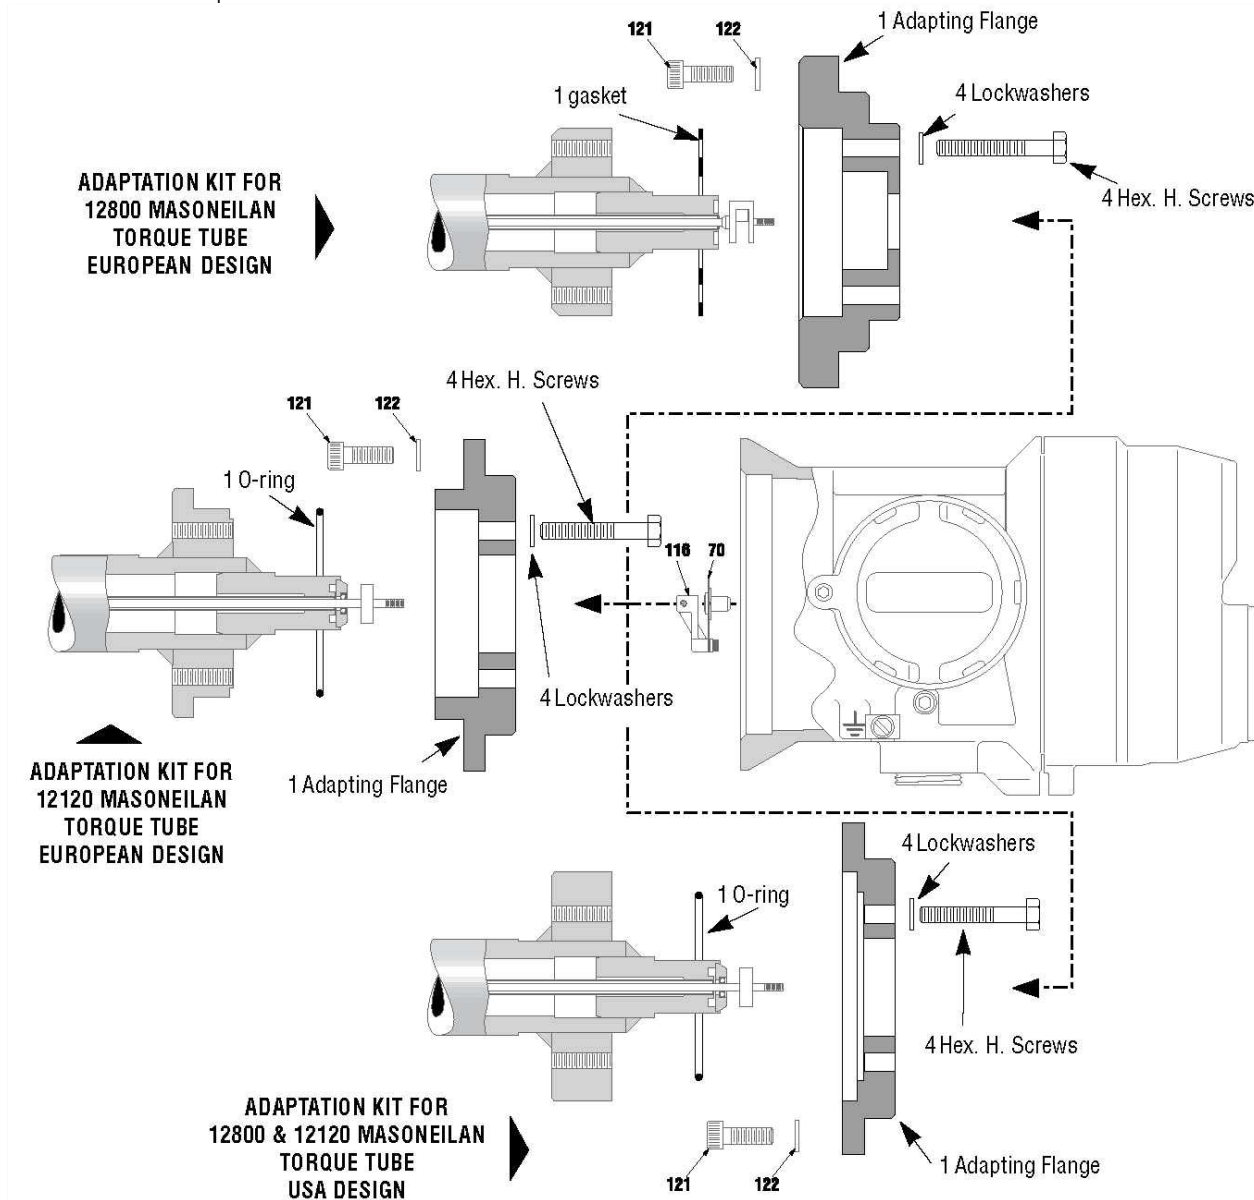

Figure 21 - Adaptation on 12800/12120 torque tube
- a. Switch off power supply. Unscrew safety screw (106) until it disengages from the case and remove the cover (104) of the connection compartment. Disconnect supply wires from terminals (90).
- b. Remove cover (107) of the mechanism compartment. Remove the spring arm (242) from the pin (243) on the beam to disengage and relax it.
- c. Using a 2.5 mm hex wrench, loosen screw (62) to uncouple the beam (54) from the torque rod.
- d. While holding the case to prevent it from falling, loosen the four screws (121), using a 5 mm hex wrench, and remove them along with the washers (122). Remove the case by pulling it along the axis of the torque tube while being careful to prevent from any deformation of the coupling flexure (70).
- e. If the original case or an identical one is reinstalled on the same torque tube, do not remove the coupling flange (116) from the torque rod. Also, do not disconnect the coupling flexure subassembly (70). As an alternative, loosen screws (119) using a 1.5 mm hex wrench and remove the coupling flange-flexure sub-assembly (116-70).
- f. If the torque tube is not dedicated to 12400 instrument, remove the DLT case adapter kit, if necessary. This kit includes a flange, a gasket, and screws, (see Figure 21).
9.2.2. ON A 12120 OR 12800 SERIES TORQUE TUBE (FIGURE 21)